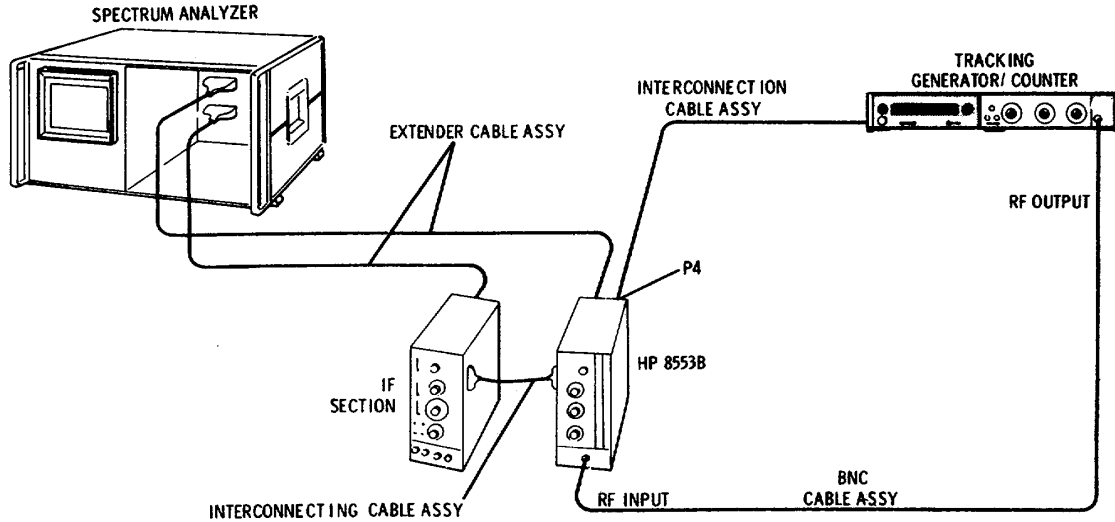

Figure 5-7. 120 MHz Low Pass Filter Adjustment Test Setup
1. Connect the test setup in Figure 5-7 and make the following control settings: